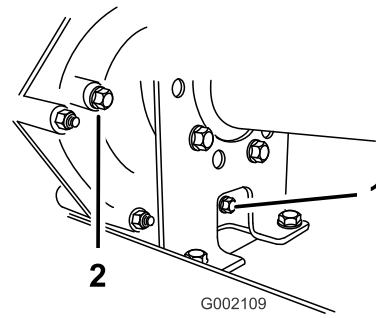
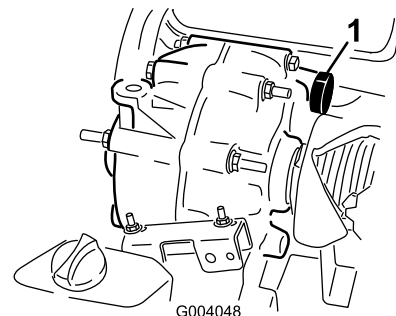

Figure 44
Figure 45
2. Wipe the area around the fill and drain plugs clean with a rag (Figure 44).
4. Remove the fill plug by rotating it counterclockwise (Figure 44).
5. Remove the drain plug by rotating it counterclockwise (Figure 44).
6. Install and tighten the drain plug and gasket into the drain-plug hole of the transmission (Figure 44).
7. Fill the reservoir (Figure 45) through the fill-plug hole with approximately 1.4 L (1.5 US qt) of the specified fluid or until the fluid level in the transmission is even with the bottom of the threads. (Figure 44).
8. Install and tighten the fill plug and gasket into the fill-plug hole of the transmission (Figure 44).
- Check the fluid level and add more fluid if the level is below the threads of the fill-plug hole (Figure 44).